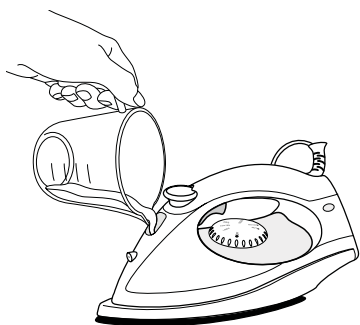

FIGURE 2
3. Hold the iron in the horizontal position (see FIGURE 2).
4. Using a measuring cup, slowly pour water into the water fill opening (see FIGURE 2).